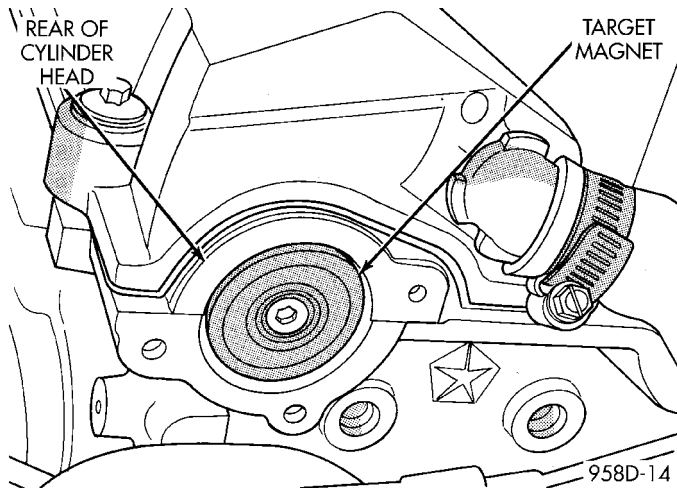

Fig. 10 Target Magnet
- (2) Remove the air cleaner inlet tube.
- (3) Disconnect engine harness connector from camshaft position sensor.
- (4) Remove camshaft position sensor mounting screws. Remove sensor.
- (5) Loosen screw attaching target magnet to rear of camshaft (Fig. 10).